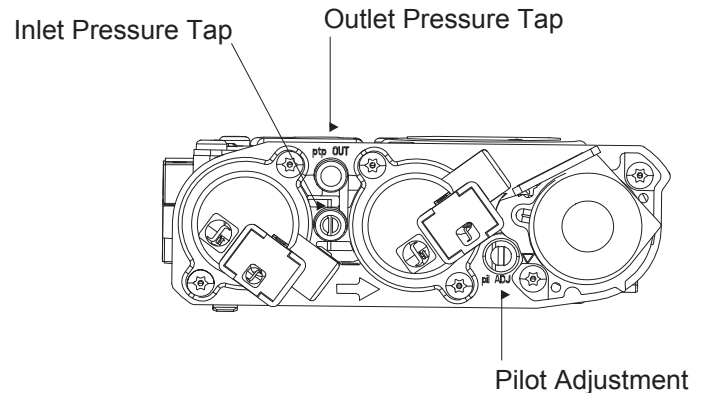

Figure 13 - Gas Pressure Check at Gas Valve
4. To check gas pressures at valve, turn captured screw counter clockwise 2 or 3 turns and then place tubing to pressure gauge over test point. Turn unit to high. See *Figure 13*. After taking pressure reading, be sure and turn captured screw clockwise firmly to reseal. Do not over torque. Check test points for gas leaks.